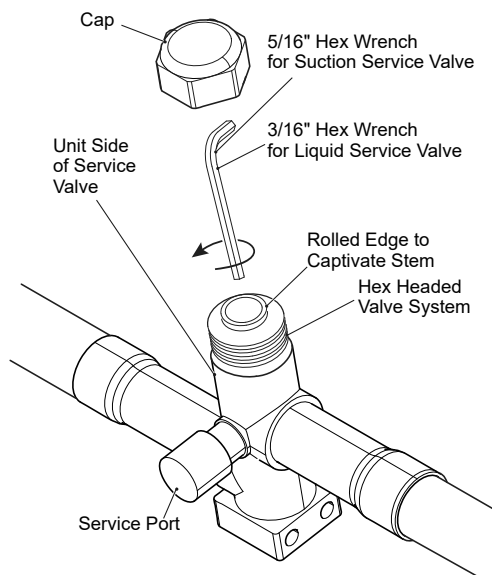

Figure 10-1
1. Remove Service Valve Cap (Fig. 10-1).
2. Fully insert hex wrench into the stem and back out counterclockwise until valve stem just touches the rolled edge (approximately five (5) turns.)